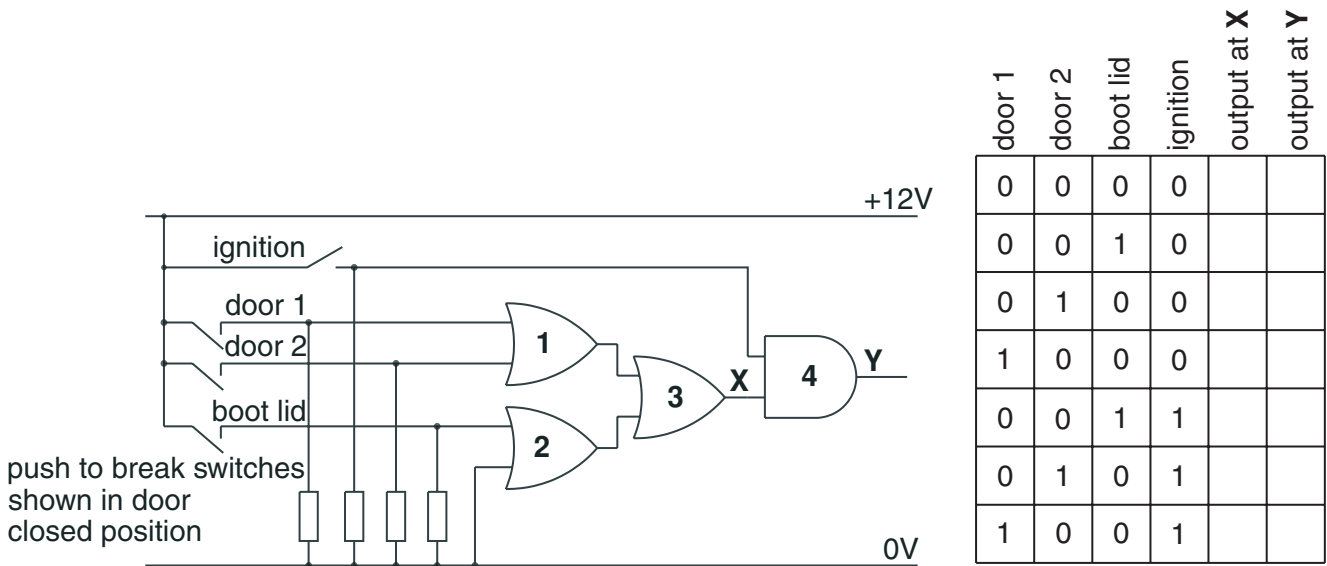

Fig. 13
- 4 (a) Modern vehicles may give a warning signal when car doors are left open. The system must only give a warning when the car ignition is switched on. Input from the doors is taken from push to break switches. Fig. 13 shows the logic for the circuit.